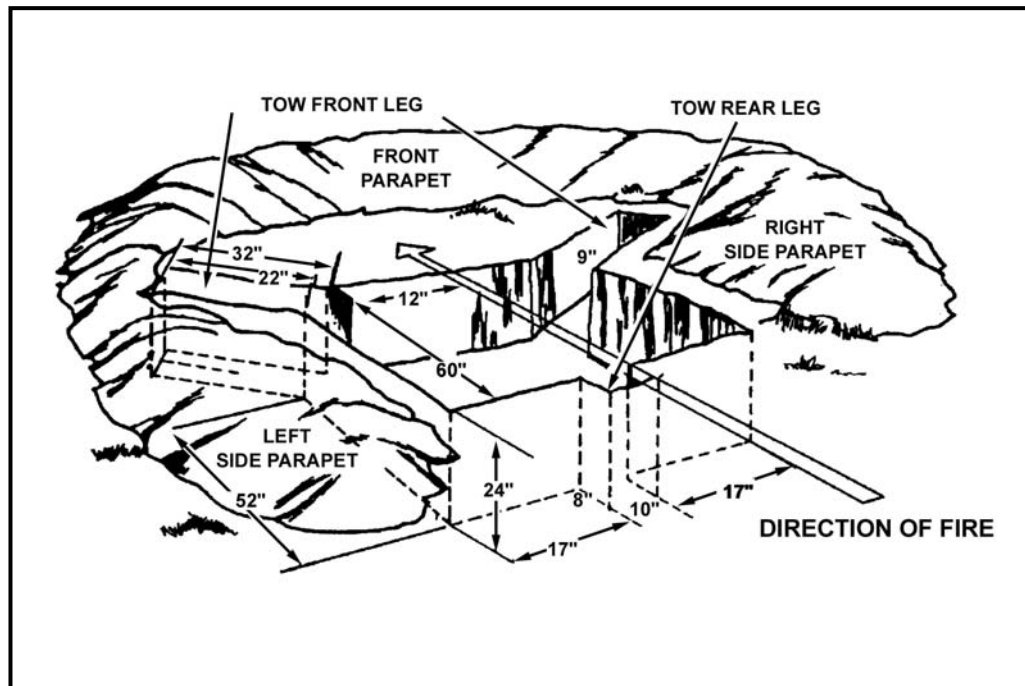

Figure C-1. Tripod-mounted TOW fighting position.
- (1) Assemble the launcher.
- (2) Clear the fields of fire while ensuring the sector is under observation.
- (3) Dig the weapon position first, then add overhead protection for the crew.
- (4) Build a parapet to the front and flanks of the position.
- (5) Disconnect the MGS and place it in the position made for it. Place the launcher into the position. Reconnect the MGS and check the boresight.
- (6) Improve the position by adding overhead cover for the crew and system.
- (7) Camouflage the position.
- (8) Inspect the position and its camouflage. If possible, move at least 35 meters to the front of the position and study it.
b. The initial position should look like Figure C-1.